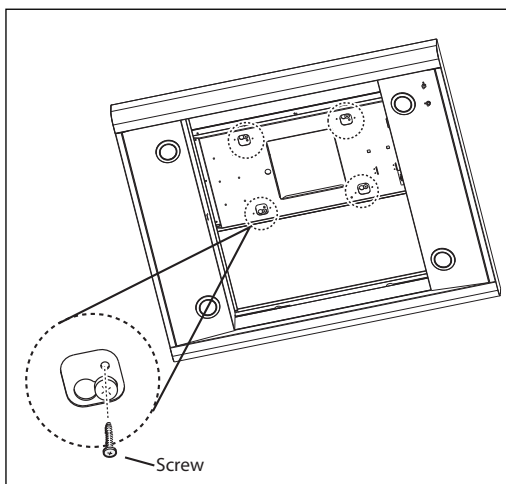

FIG.7
- Tighten screws securely (from inside the canopy). Fix canopy to structure with 4 screws from inside the canopy. See Fig. 7.